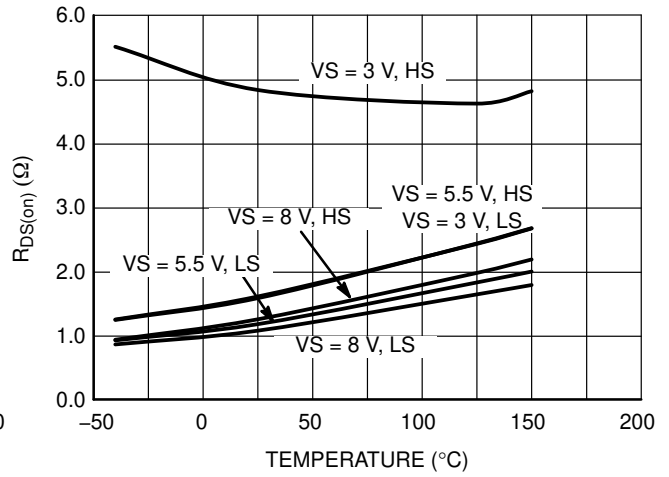

Figure 12. R_{DS(on)} vs. Temperature
- Refer to Figures 12 and 15 for $R_{DS(on)}$ behavior.